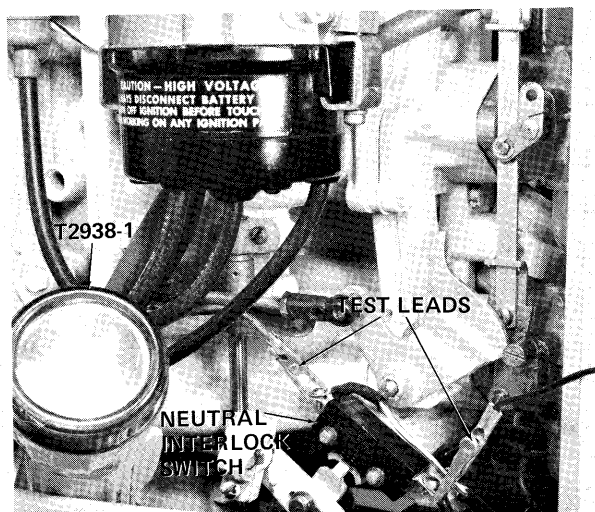

Figure 11A—Connection of Test Light Lead Wires
- C. Connect leads of test light (Special Tool T29384) to neutral interlock switch as shown in figure 11A.